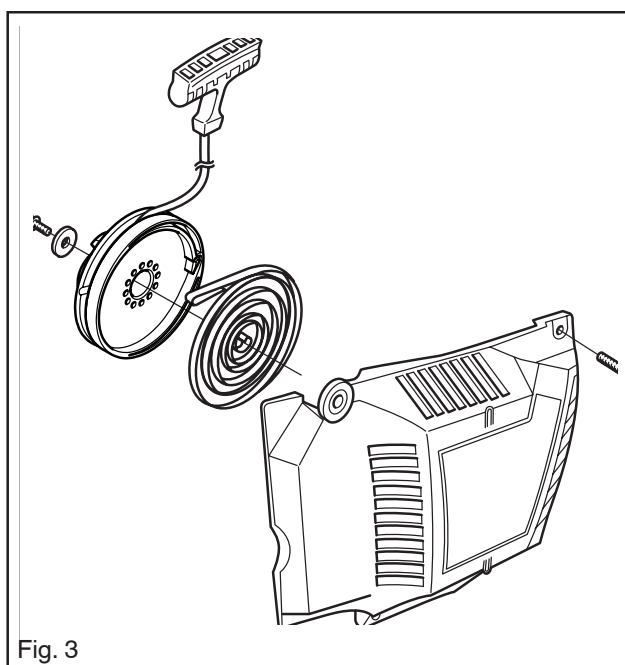

Fig. 3
4. Remove the central bolt and take out the washer and starter pulley. See fig. 3.
5. Fit the washer and bolt (See fig. 3.) and tighten it with the correct torque (*Refer to "4 Service data" on page 10*).